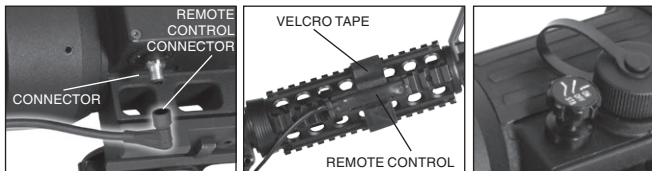

FIGURE 2-7. REMOTE CONTROL
1. Remove the rubber cap from the connector. The rubber cap can be placed onto the screw head, that attached the strap of cap to the body of device (see Figure 2-7).